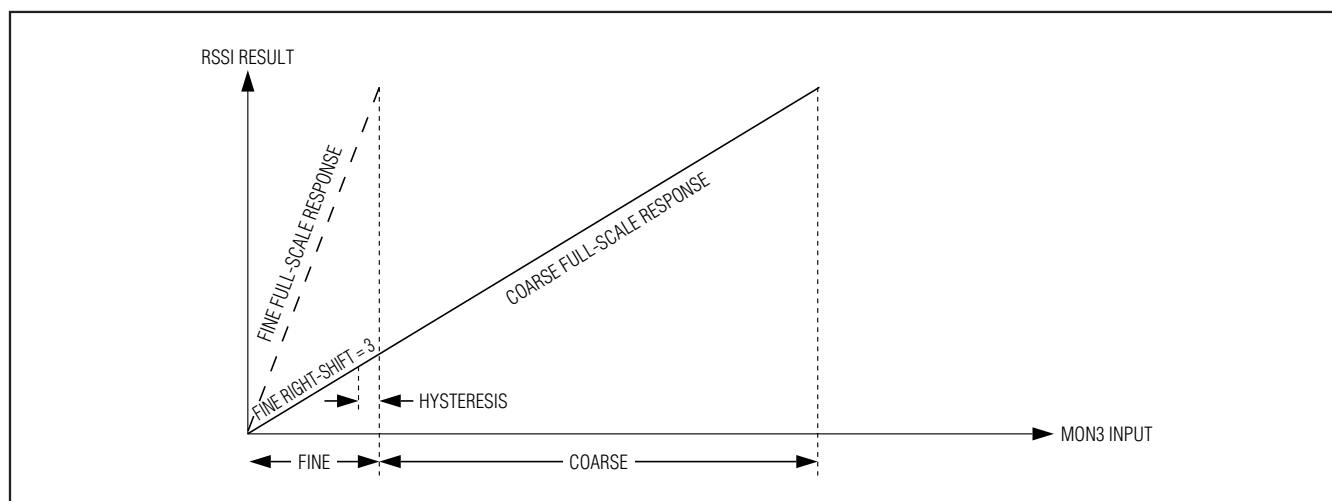

Figure 9. RSSI with Crossover Disabled
- **Crossover Disabled:** The crossover disabled mode is intended for systems with a linear relationship between the MON3 input and desired ADC result. The ADC result transitions between the fine and coarse ranges with hysteresis (Figure 9). In crossover disabled mode, the thresholds between coarse and fine mode are a function of the number of right-shifts being used. With the use of right-shifting, the fine-mode full scale is programmed to (1/2ⁿth) of the coarse-mode full scale. The device now auto ranges to choose the range that gives the best resolution for the measurement. Table 4 shows the threshold values for each possible number of right-shifts.